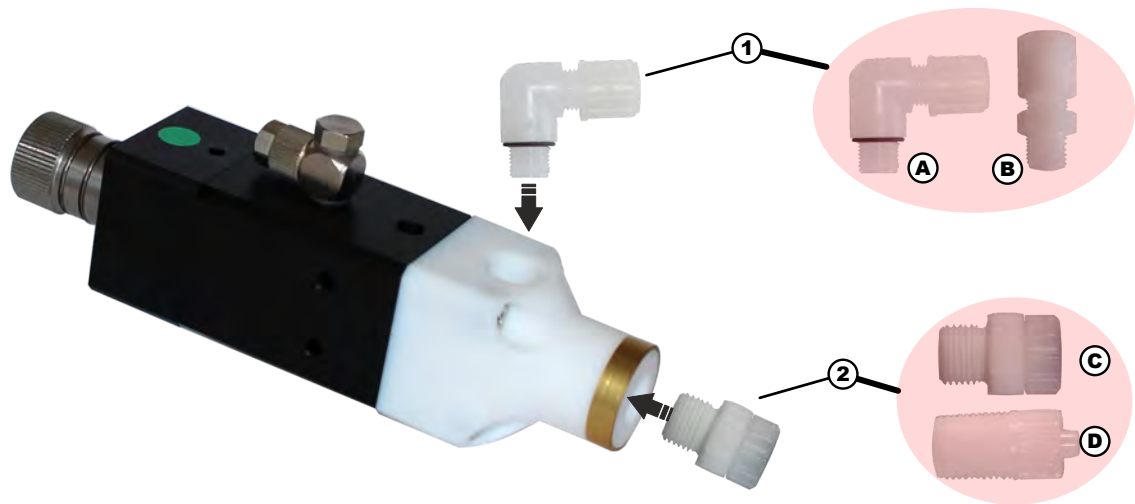

Fig. 2: EPC dosing valve 295229: Product input and output connections
2. ➤ Remove the elbow gland (Fig. 2, Pos. 1/A) from the packaging.